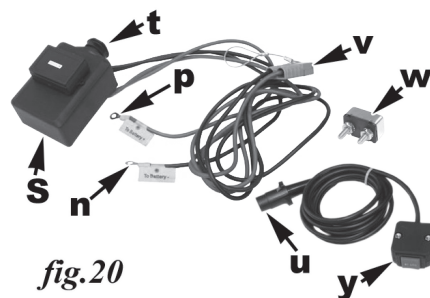

fig.20
The control box includes a transponder that can connect it wirelessly to a wireless remote control switch (optional at extra cost). There is also a hard-wired manual winch control switch (y, fig.20) included to operate your plow.
2. Run the red (p, fig.20) and black wires (n, fig.20) attached to the blue 2 inch connector plug (v, fig.20) forward to a point outside the front of the vehicle near the custom mount, where the plug can easily be connected to the plow lead. Leave some slack.
4. The red wire must be connected to the positive terminal of the battery with an intervening in-line 35 amp circuit breaker (w, fig.20) or fuse. The 35 amp circuit breaker is necessary to prevent possible electrical damage to either the winch or the vehicle's electrical system.
5. Run the hard-wired control lead so that the switch (y, fig.20) goes into the cab of the vehicle and the plug (u, fig.20) connects to the socket in the top of the control box (t, fig.20).